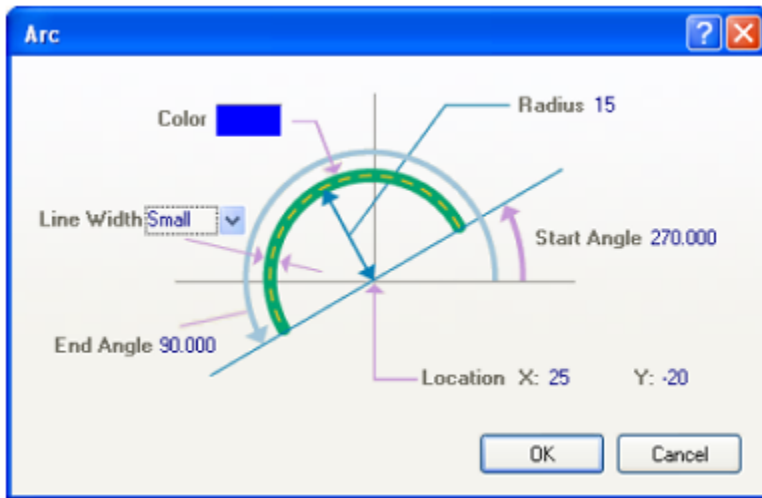

Figure 31. The properties of the arc can be defined in the dialog, or using the mouse.
2. Press the **TAB** key to set the arc's properties. The *Arc* dialog displays. Set the radius to 15, start angle to 270, end angle to 90, and the line width to **Small**, as shown in Figure 31.